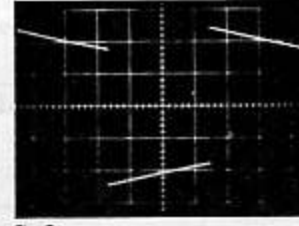

Fig 5.
- Fig 5. 40Hz squarewave into 8 ohms. Minimum tilt.